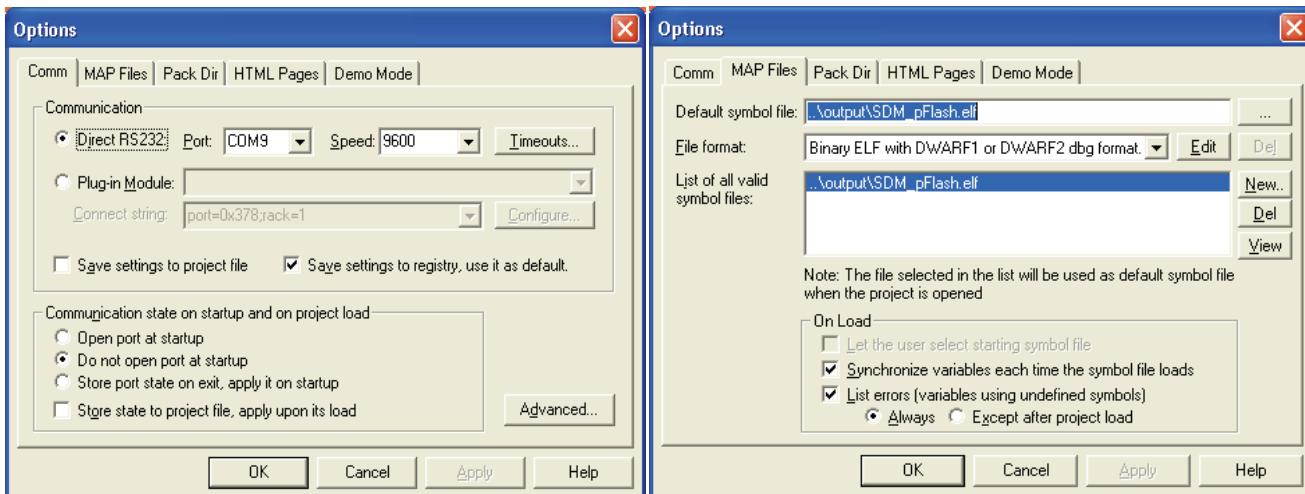

Figure 1-4 FreeMASTER Configuration
9. Set proper COM number and speed (**9600 bauds**) in FreeMASTER options. (see Figure 1-4 FreeMASTER Configuration)